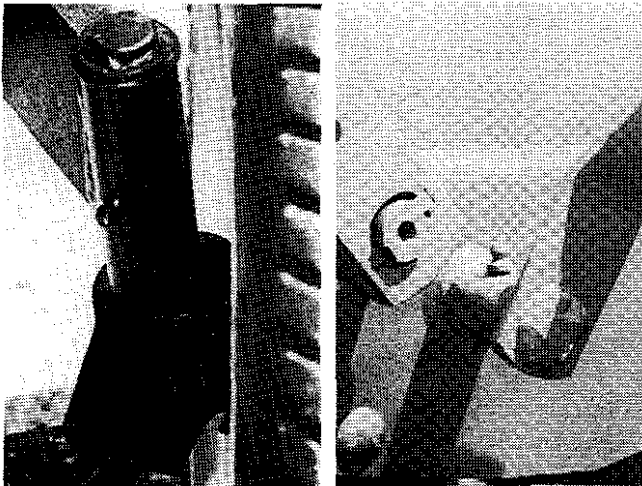

FIGURE 32
4. Lubricate Grease Fittings: There are six grease **zerks** on the tractor located as follows: two on the front spindles and one on the steering bearing housing, power take-off, right **rear axel** and clutch. Give each **zerk** about 3 shots of automotive type grease every 25 hours. See figures 32 through 36.